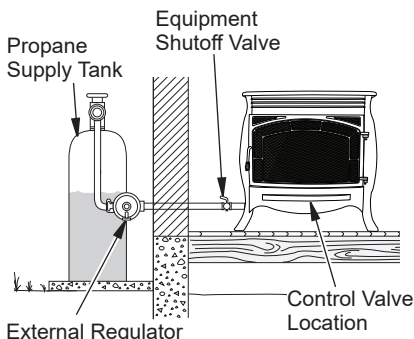

Figure 14 - Checking Gas Joints for Propane Gas
4. Check all joints from equipment shutoff valve to control valve (see Figure 14 or 15, page 14). Apply a noncorrosive leak detection fluid to all joints. Bubbles forming show a leak.